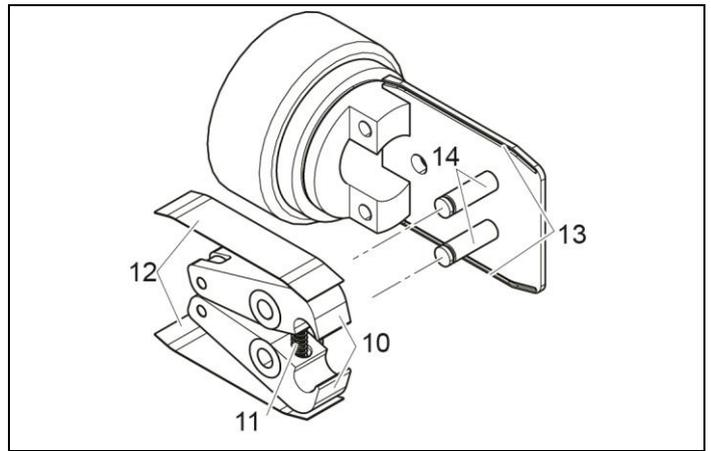

Fig. 29: Fitting the pincer jaws
7. Remove the compression spring (Fig. 29/11), cover plate (Fig. 29/12) and pincer jaws (Fig. 29/10).
8. Grease and assemble replacement pincer jaws (Fig. 29/10) and compressions spring (Fig. 29/11) from the pincer jaw replacement kit and pin (Fig. 29/14) with special lubricant RENOLIT LX-EP 2 (RENOLIT Duraplex EP 2).
10. Check mobility of pincer jaws (Fig. 29/10).
The plunger (Fig. 26/2) must lie between the two pincer jaws (Fig. 29/10).